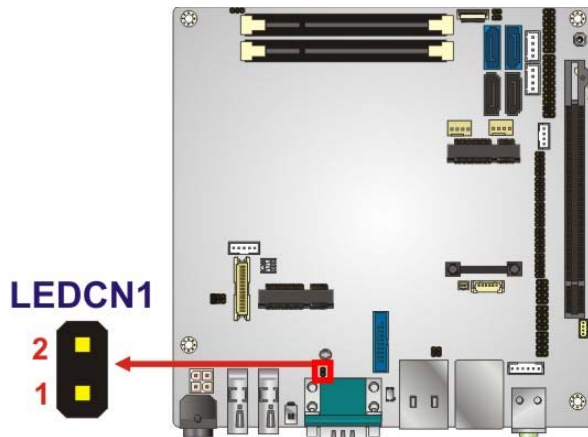

Figure 3-12: IPMI Active LED Connector
- CN Location:** See **Figure 3-12**